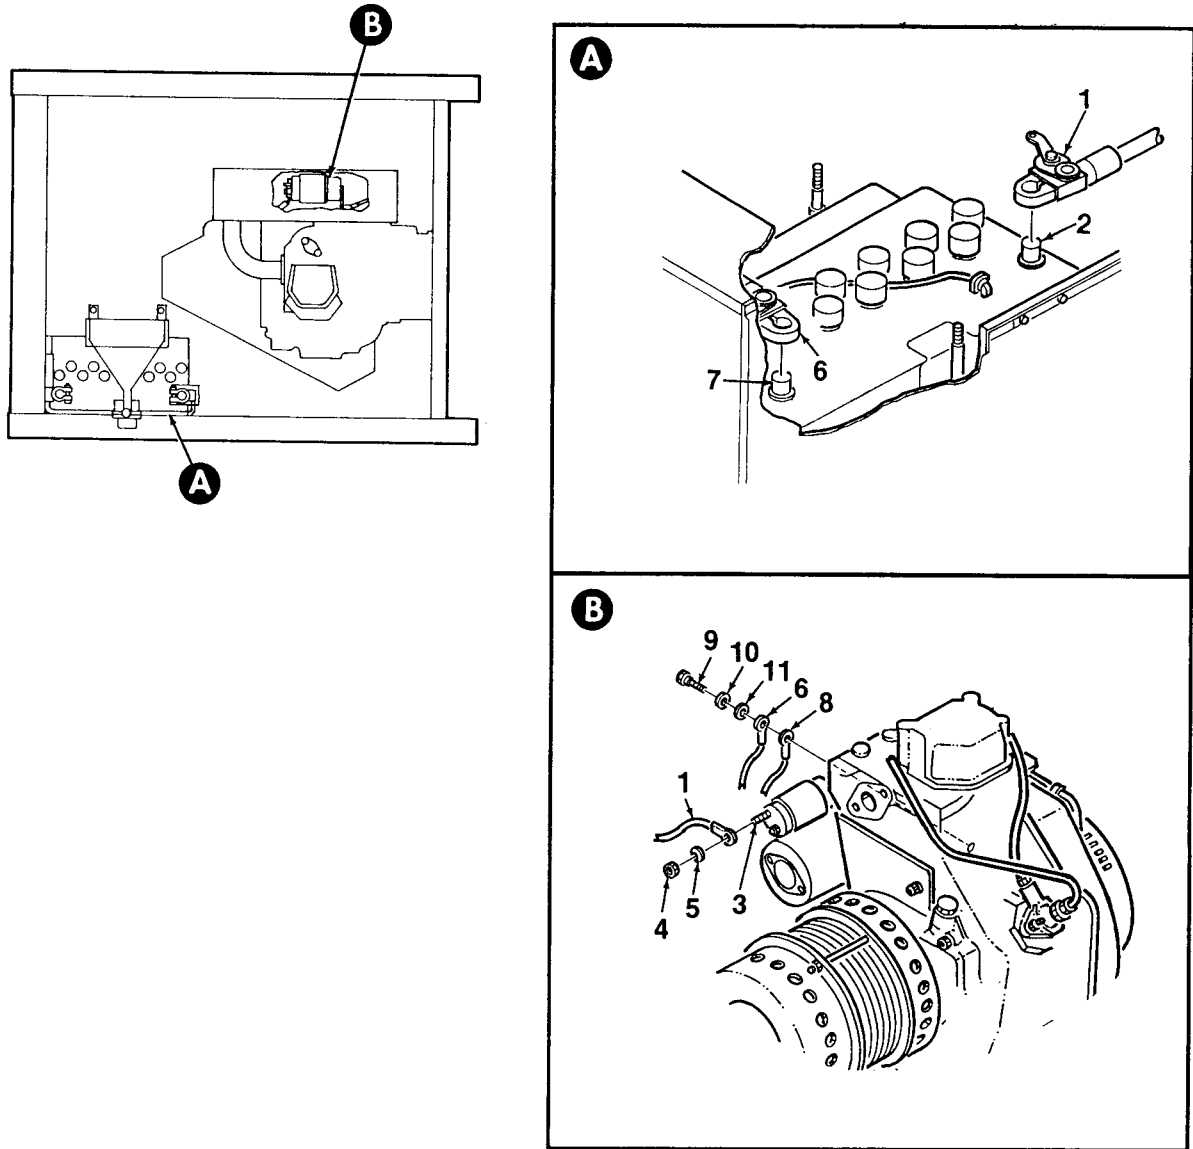

Figure 4-36. Battery Cables
2. Disconnect negative battery cable (6) from negative (-) battery post (7). Disconnect opposite end of cable from engine ground lug by removing screw (9), lockwasher (10), and washer (11). Leave electrical cable (8) in place on ground lug.
3. Disconnect positive battery cable (1, Figure 4-36) from positive (+) battery post (2). Disconnect opposite end of cable from starter's positive terminal (3) by removing nut (4) and washer (5).